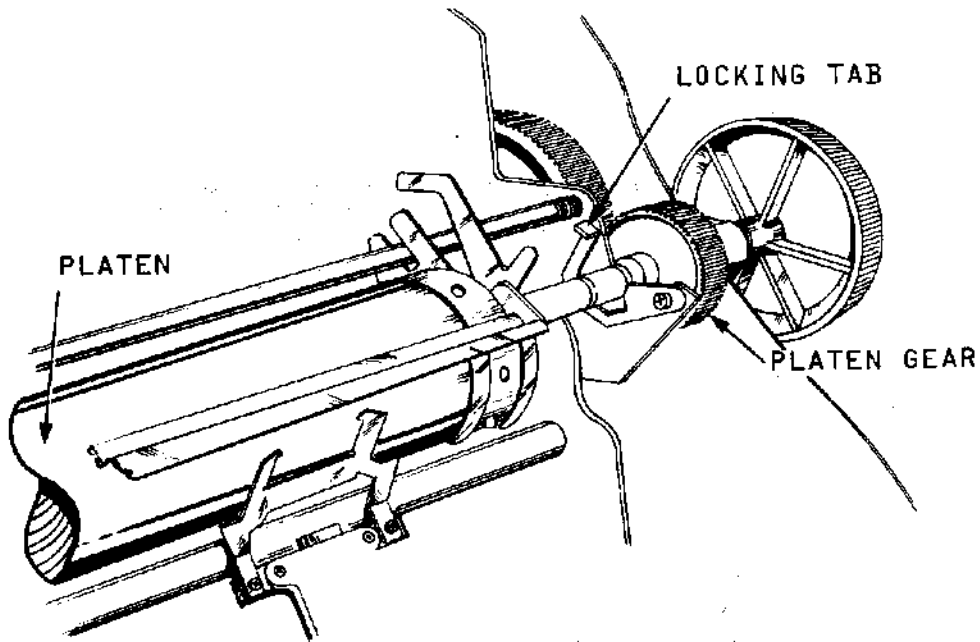

Figure 3-5 Pin-Feed Platen Removal
- c. Press the locking tabs and lift the platen from the printer (Figure 3-5).